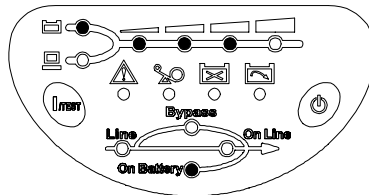

Fig 4-5 On-Battery Mode
- **ON-BATTERY mode:** When the UPS is in “ON-BATTERY mode”, the on- battery LED will light on, buzzer beep half second every 2 seconds and then the UPS will start supplying power to load through batteries. Shown as fig 4-5.